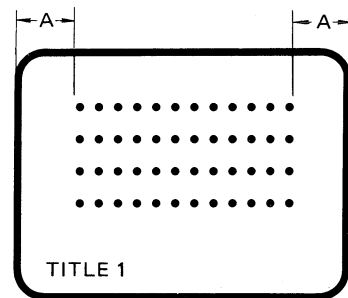

Fig. 4-2-60
- Press the WORD L/S button on the key board (B) to select small dots.
- Adjust CHARACTER SIZE VR1 so that the both side spaces between dots and screen edges become equal (A). (Fig. 4-2-60)